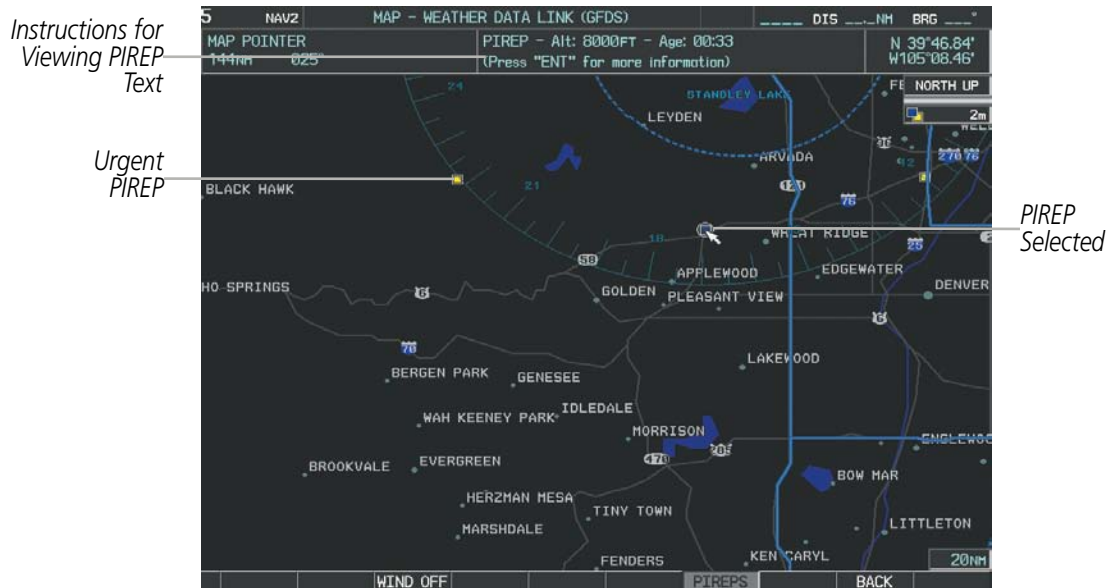

Figure 6-81 PIREPs on the Weather Data Link (GFDS) Page
- 3) Turn the small **FMS** Knob to display the group selection window. Turn the small **FMS** Knob to select 'Weather' (Figure 6-81), and press the **ENT** Key.